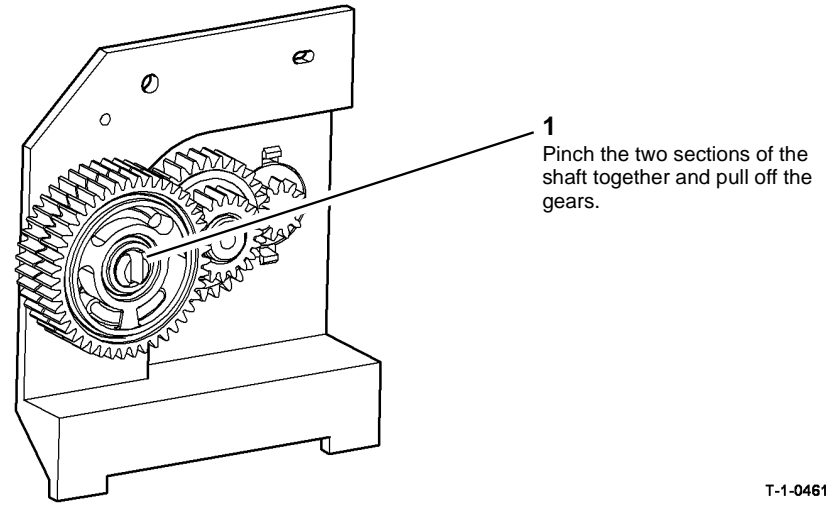

Figure 3 Gears removal
4. To remove the drive gears, Figure 3.